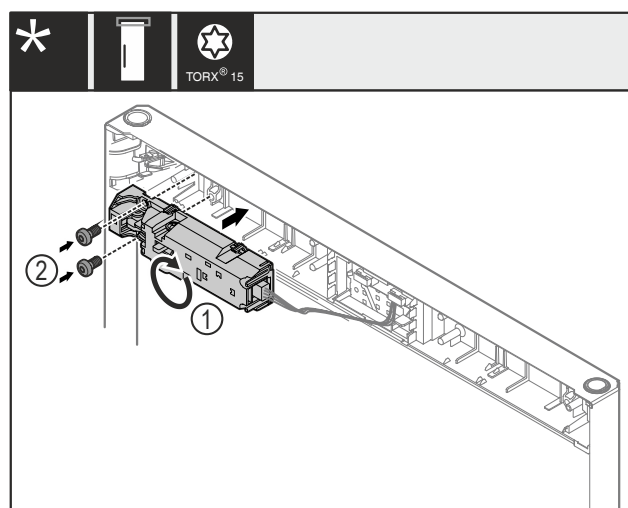

Fig. 24
- Turn the remote lock Fig. 24 (1) by 180° and attach on the opposite side.
- Fasten the remote lock Fig. 24 (1) with screws Fig. 24 (2).